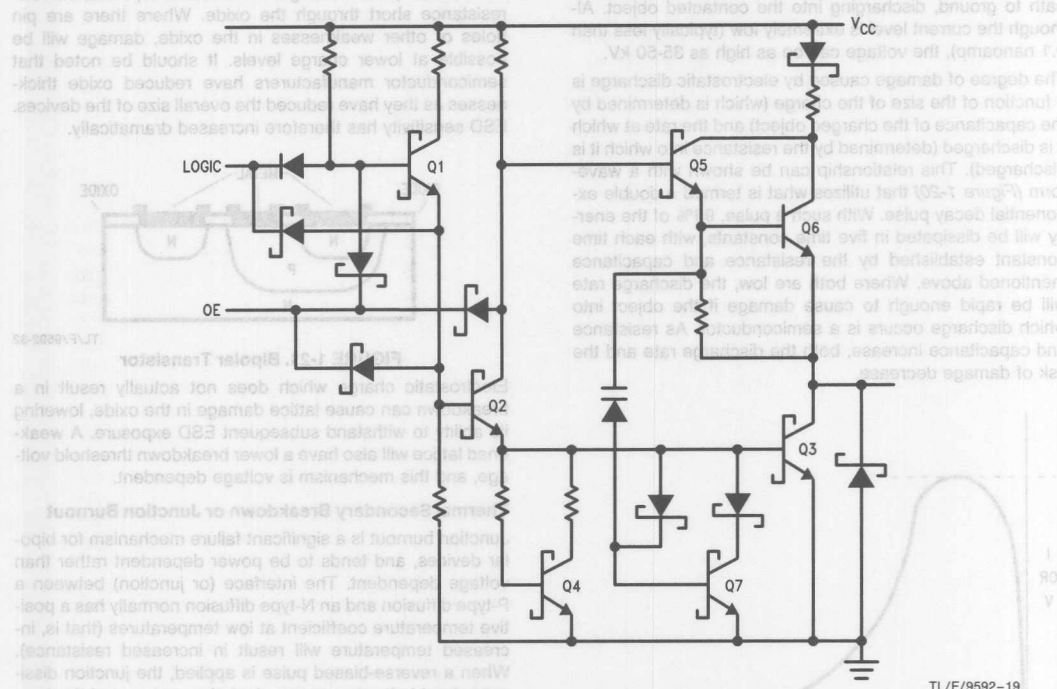

FIGURE 1-19. Typical TRI-STATE Input Control
A partial schematic of a circuit having a TRI-STATE output is shown in Figure 1-19. When the internal Output Enable (OE) signal is HIGH, the circuit operates in the normal fashion to provide HIGH or LOW output drive characteristics. When OE is LOW, however, the bases of Q1, Q2 and Q5 are pulled down. In this condition the output is a high imped-